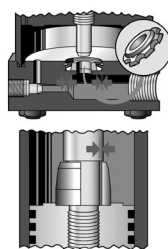

Figure 3-2
- Floating design allows closer tolerance, yet minimum wear (see Fig. 3-2)
- Floating design allows closer tolerances, yet minimum wear (see Fig. 3-2)